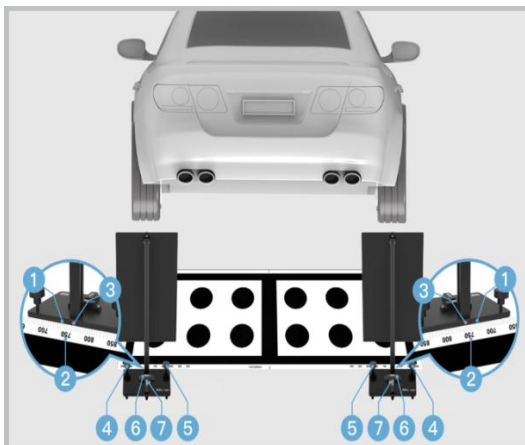

Figure 3-48 Position and Adjust the Calibration Tools
4. Place the two assembled calibration tools in the position displayed in Figure 3-48. Ensure the side (①) with marked line on the base of the target board holder attaches with the edge of the ruler (②) on the pattern.
5. Move the target board holder left or right to aim the marked line (③) at 775 on the ruler (②).
6. Rotate the bolts (④) and (⑤) so that the bubbles in the bubble levels (⑥) and (⑦) are centered.